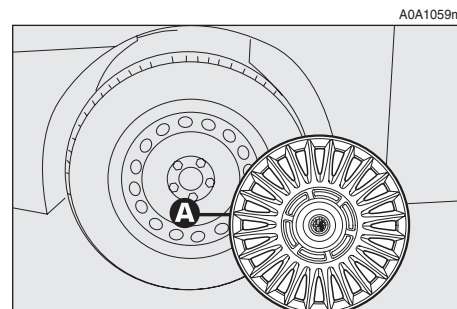

fig. 4
– Remove the wheel cap (A-fig. 4) (only versions with steel rims)